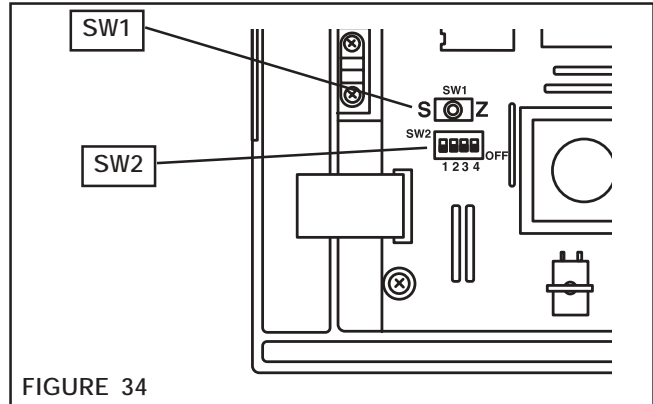

FIGURE 34
1. Move switch SW2-1 to the **OFF** (down) position (See Figure 34).
1. Move Switch SW2-1 to the **ON** (up) position (See Figure 34).